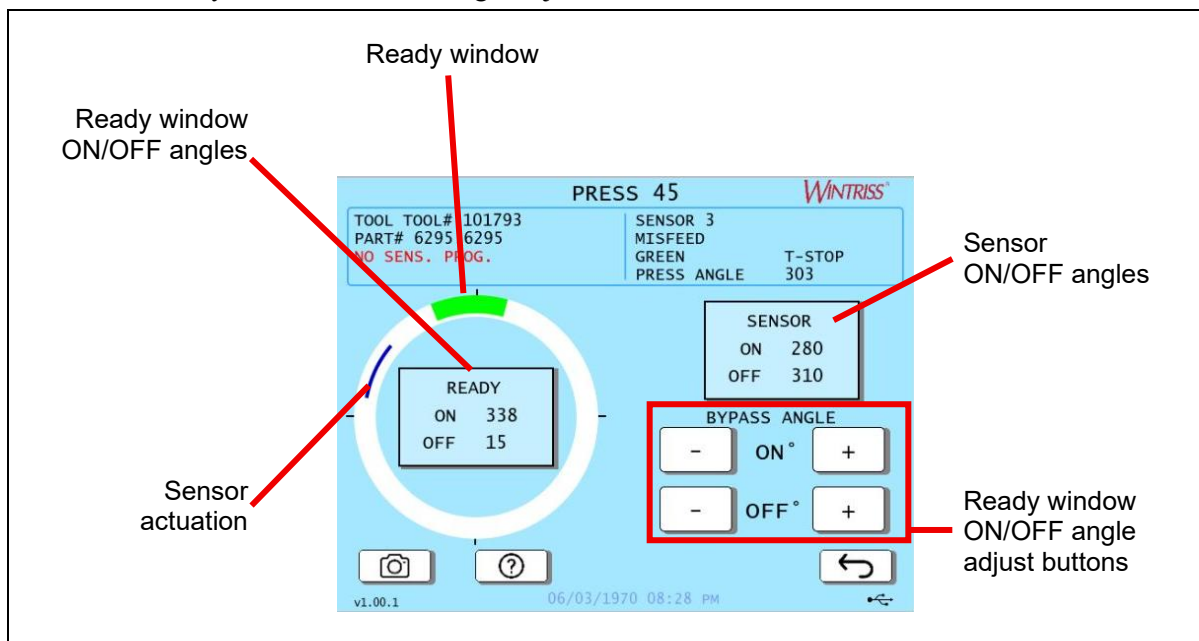

Figure 5-6. Ready Window Adjust Screen
When you run the press, the angles at which the selected sensor turns on and off during each stroke are shown in the window labeled SENSOR at the right of the screen (Figure 5-6), and the number of degrees that the sensor is on is represented graphically by a black arc on the crank angle clock. This information allow you to fine-tune the Ready window settings made in Program mode.
2. Press the button for the green sensor you want to adjust the ready angle for. The Ready Window Adjust screen appears, Figure 5-6, showing a crank angle clock and these items: